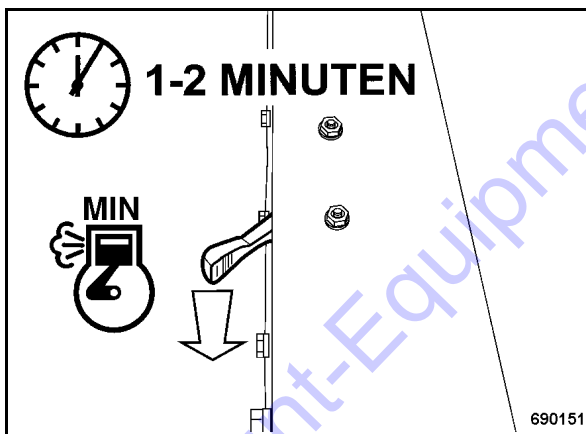

Fig. 21
- Set the throttle lever (Fig. 21) to position "MIN".